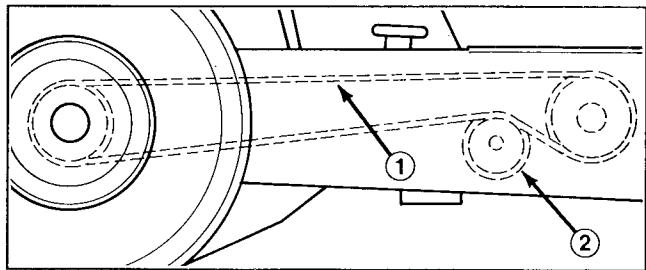

Figure 5
1. Route chain around rear spindle sprocket, idler sprocket and transaxle sprocket assembly as shown in Fig. 5.
2. Secure chain with connecting link (Fig. 5)